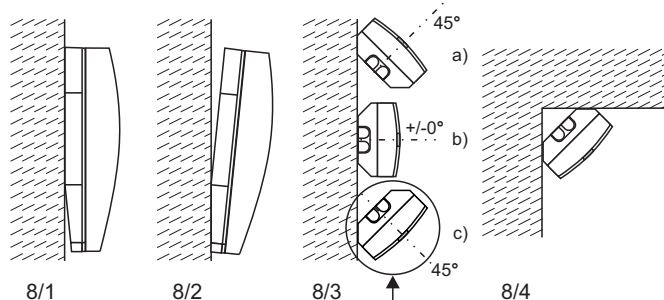

Fig. 8 Backtamper here not possible
Mounting as per Fig. 8/2
8.2 Mounting possibilities (Fig. 8 and 9)
- 0° Vertical at a 0° downward angle (Fig. 8/1)
- 3° Vertical at a 3° downward angle (Fig. 8/2)
- 45° Horizontal at a 45° angle to the left or right (Fig. 8/3)
- Corner mounting (Fig. 8/4)
Should the mounting possibilities in accordance with Fig. 8 not suffice, the detector can be mounted on the "Adjustable joint".
The method of attachment of the housing base depends on installation according to Fig. 8:
- **0° Vertical** (Fig. 8/1)
- **3° Vertical** (Fig. 8/2)
- **45° Horizontal to the left or right** (Fig. 8/3)
- To the right: Remove "Protective cover ⑤ for back-tamper" (on the rear)
- To the left: Screw on 2 positions ④.
- **Corner mounting** (Fig. 8/4)
Please note, that the backtamper is not possible when mounting according to Fig. 8/3c.